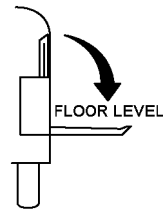

FIG.3 UNFOLD PLATFORM
2. Activate **UNFOLD** switch on Lift **HAND CONTROL (FIG.4)** to open **PLATFORM** to horizontal position (**FIG.3**).